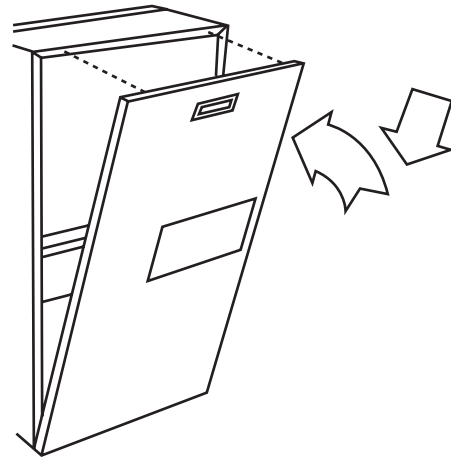

Fig. 13 - Furnace Door Replaced
7. Replace main furnace door. (See Fig. 13.)
- Replace the main furnace door. (See Fig. 13.)